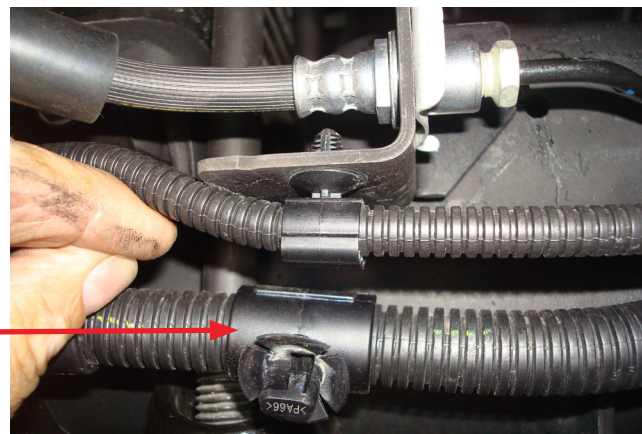

Fig. 8
- Squeeze the two locking tabs on the large ABS wiring harness loom holder that is attached to the stock brake/ABS line bracket and pull out, disconnecting it from the bracket (Fig. 7 & Fig. 8). Detach the opposite side and leave loose for now.